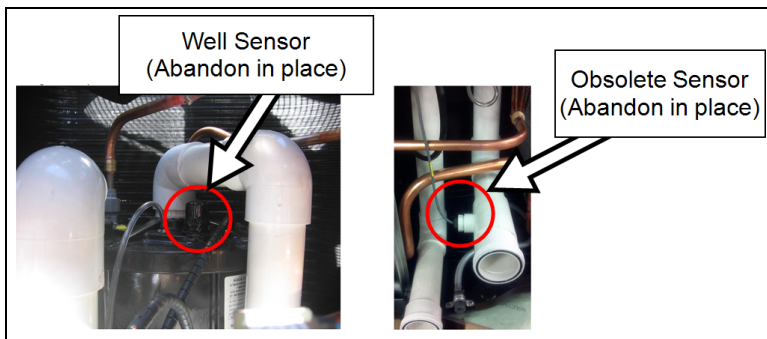

Figure 12- Well Sensor
9. If the existing water temp sensor is mounted inside a temperature well (**Figure 12**) or is a different style than the sensor shown in the kit (See "*ECP0394 Water Temperature Sensor*" on page 4.), abandon it in place and install both new water temp sensors on the "Water In" pipe, just inside the electrical panel as shown in **Figure 11**.